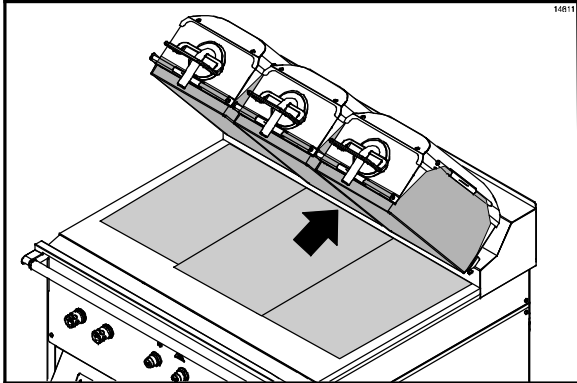

Figure 77
52. Align the back edge of the third lower release sheet with the back splash and middle of the grill. The release sheet will overlap the edge of the other two release sheets. (See Figure 77.)